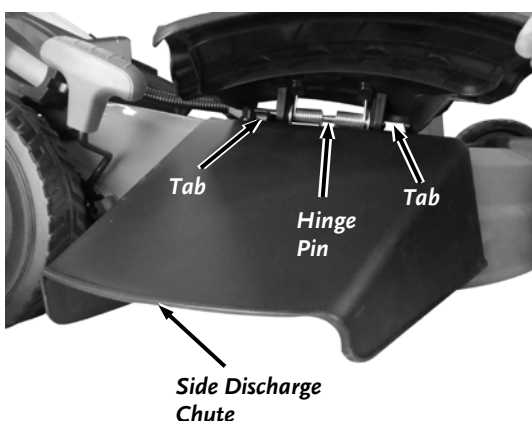

Figure 10
2. Place the Tabs of the Side Discharge Chute under the Hinge Pin (**Figure 10**).
1. Hold the Rear Cover in the upright position (**Figure 10**).